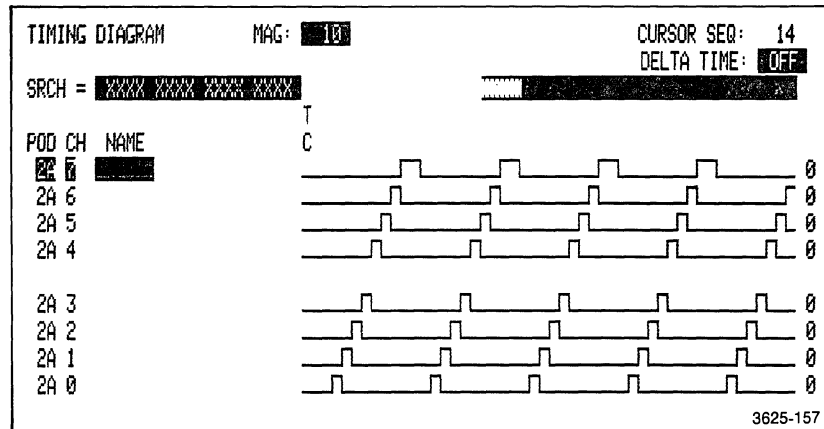

Figure 5-29. 91P16 inhibit test results.
8. When data acquisition is finished, enter the Timing Diagram menu. The display should look like Figure 5-29.
A display like Figure 5-29 indicates that the inhibit signal is being properly processed by the 91P16. The next steps verify the operation of the inversion of the inhibit signal.
12. When data acquisition is finished, enter the Timing Diagram menu. The display should again look like Figure 5-29.